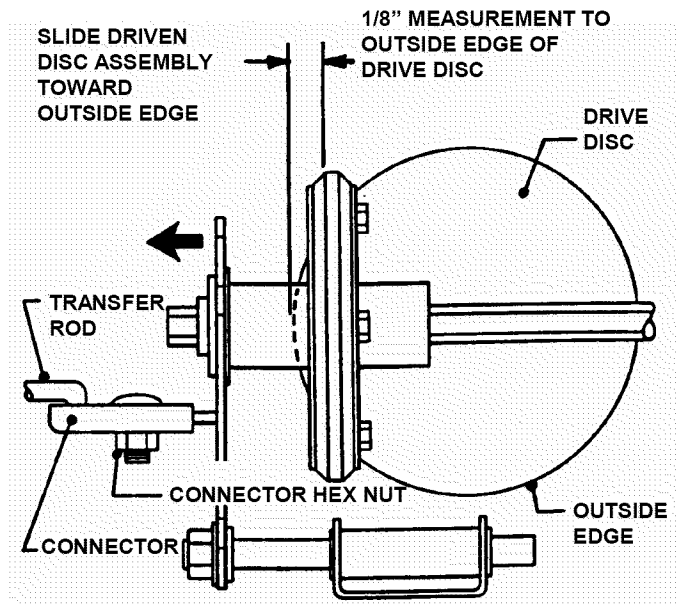

FIGURE 4.10
3. Slide driven disc assembly over to 1/8" from outside edge of drive disc. Maintaining the 1/8" measurement, remove any looseness from the linkage. This can be done by holding the transfer rod and applying pressure to the left (as viewed from operators position). Then retighten the connector hex nut. See Figure 4.10. Move ground speed control to the first speed position, then back to the sixth speed position. Recheck the 1/8" measurement described previously. Reinstall driven disc spring to driven disc assembly.